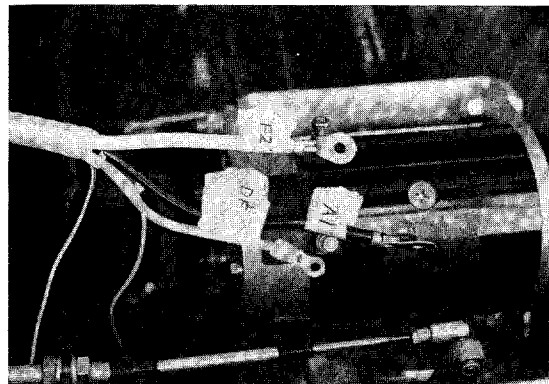

Figure 6-6
5. Disconnect wires from starter-generator. Identify wires for correct reassembly (**Figure 6-6**).